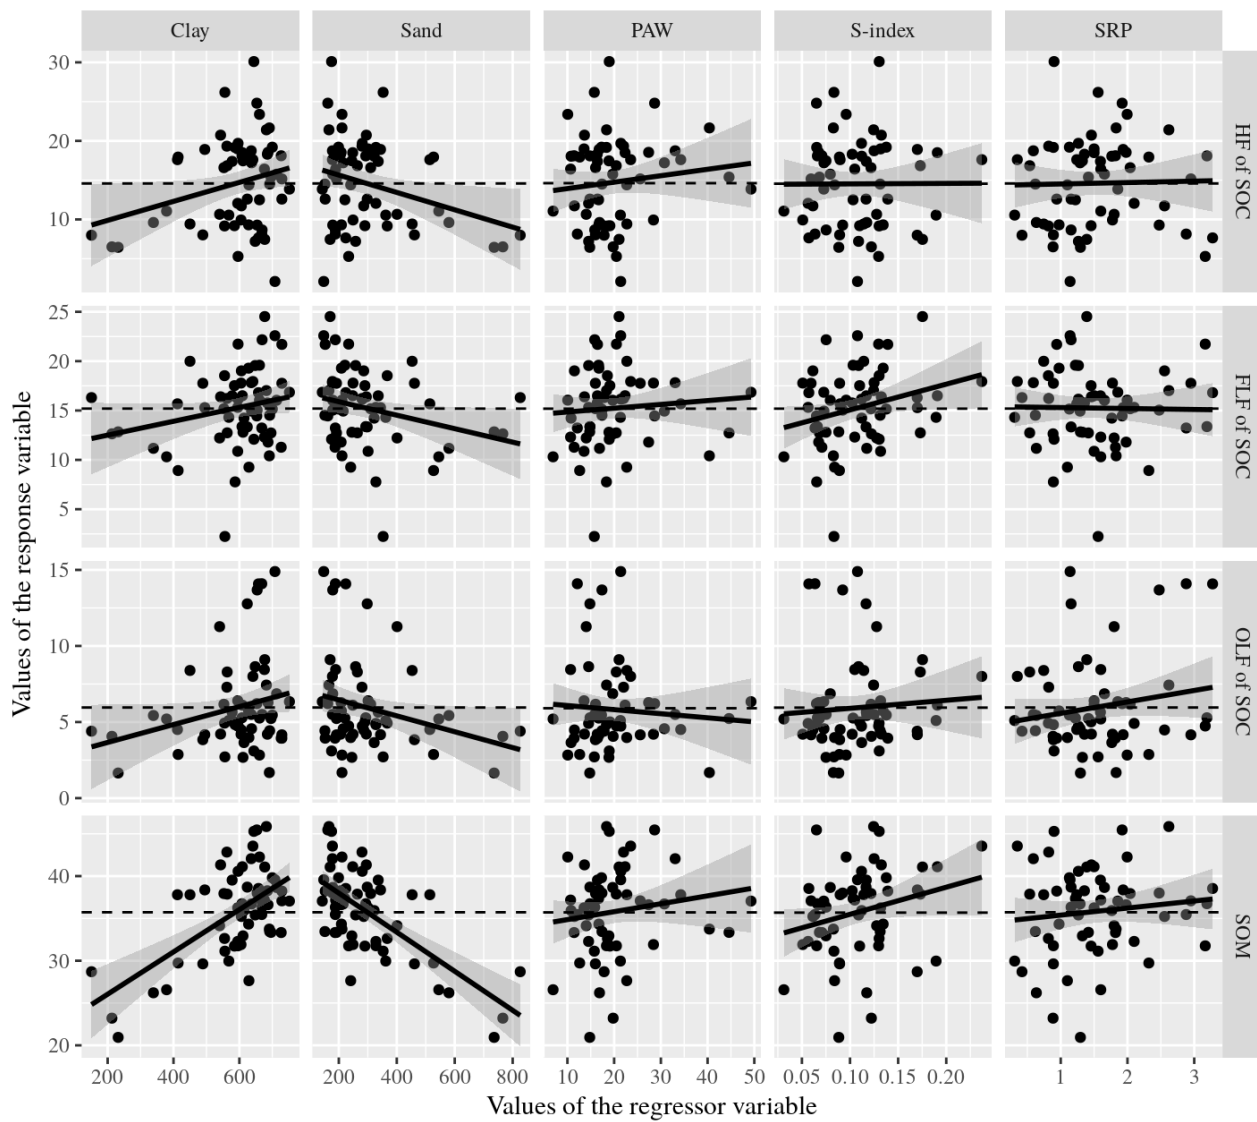

Fig. 7
19 **Fig. 7** Relationships of the clay content (PAW), penetration resistance (PR), S-index (S) and sand content with